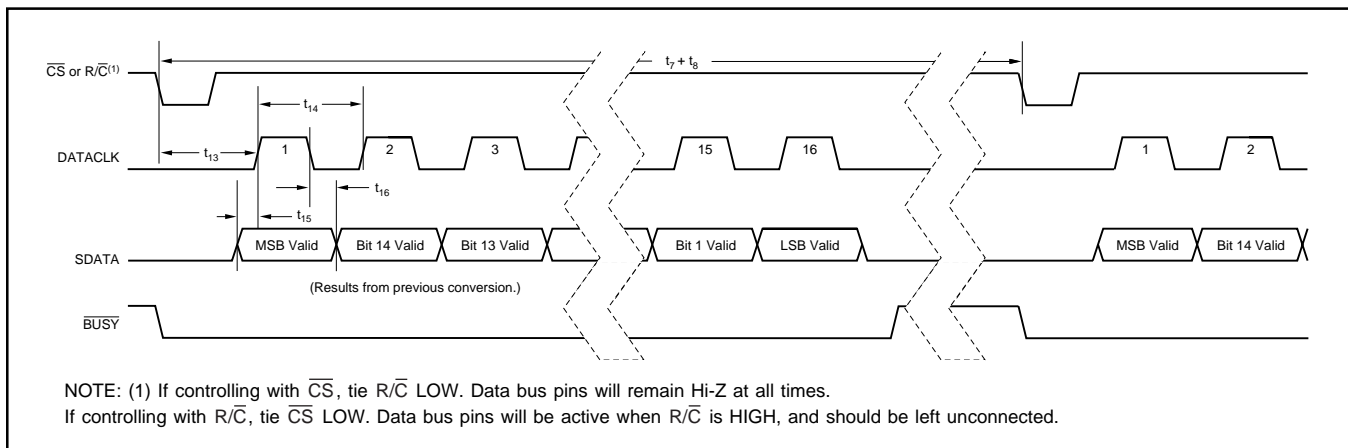

FIGURE 4. Serial Data Timing Using Internal Data Clock (TAG tied LOW).
NOTE: (1) See Figures 4, 5, and 6 for constraints on data valid from conversion 'n – 1'.
To use the internal data clock, tie $\text{EXT}/\overline{\text{INT}}$ (pin 8) LOW. The combination of $\overline{\text{R}/\overline{\text{C}}}$ (pin 22) and $\overline{\text{CS}}$ (pin 23) LOW will initiate conversion 'n' and activate the internal data clock (typically 900kHz clock rate). The ADS7807 will output 16 bits of valid data, MSB first, from conversion 'n-1' on SDATA (pin 19), synchronized to 16 clock pulses output on DATACLK (pin 18). The data will be valid on both the rising and falling edges of the internal data clock. The rising edge of $\overline{\text{BUSY}}$ (pin 24) can be used to latch the data. After the 16th clock pulse, DATACLK will remain LOW until the next conversion is initiated, while SDATA will go to whatever logic level was input on TAG (pin 20) during the first clock pulse. Refer to Table VI and Figure 4.